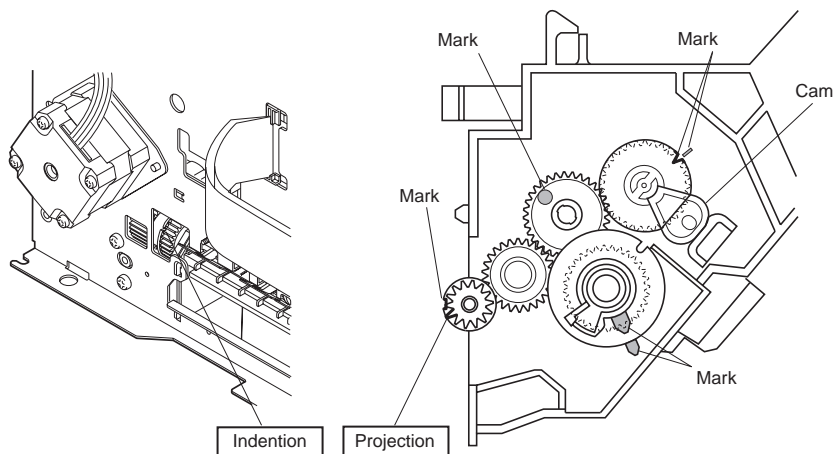

Figure 3-7 ASF Gear Initial Position Adjustment
- 1) Rotate the pick-up roller to place the ASF unit's cam and the mark in the position shown in *Figure 3-7*.